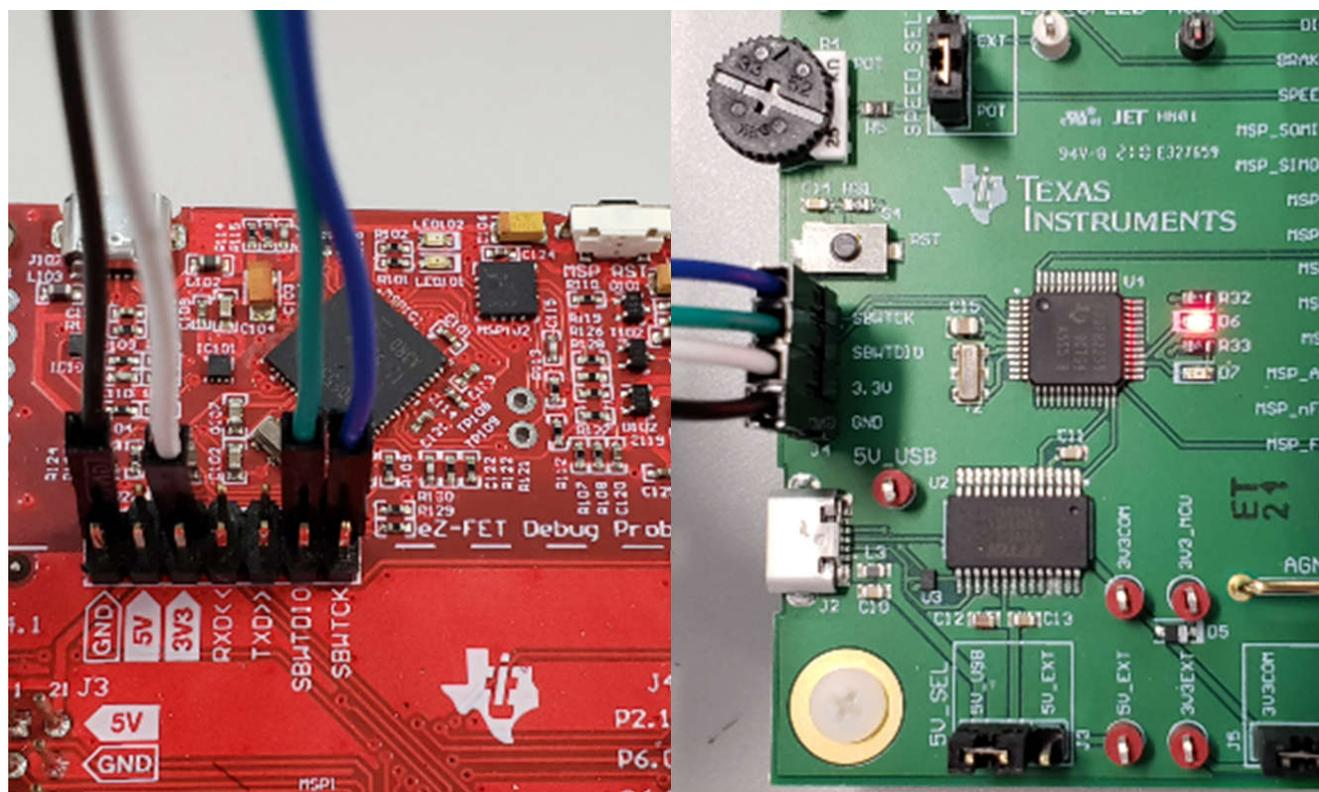

Figure 3-4. MSP430 LaunchPad™ eZ-FET Probe Connected to MCT8315ZEVm
2. Connect the top pins on the eZ-FET side of the LaunchPad of the GND, 3V3, SBWTCK, and SBWTDIO signals to their respective pins on J4 of the MCT8315ZEVm as shown in Table 3-1 and Figure 3-4.